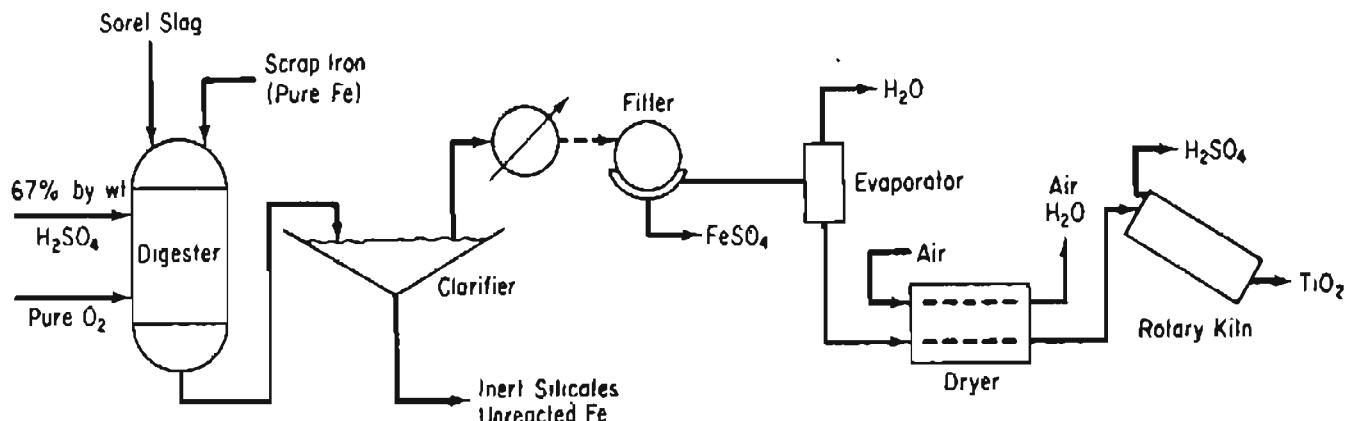

Figure P11.18
- ***11.18** The flowsheet shown in Fig. P11.18 represents the process for the production of titanium dioxide (TiO_2) used by Canadian Titanium Pigments at Varennes, Quebec. Sorel slag of the following analysis: